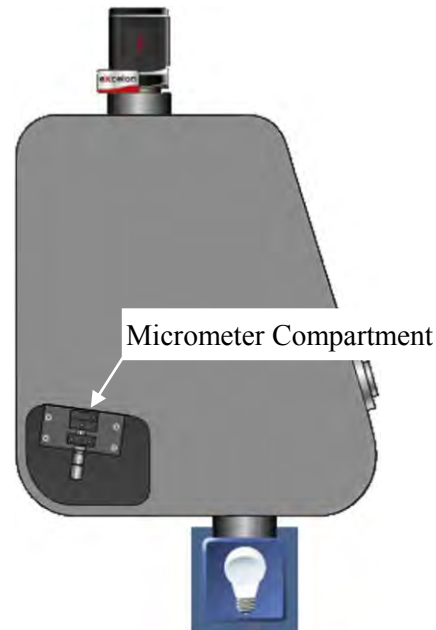
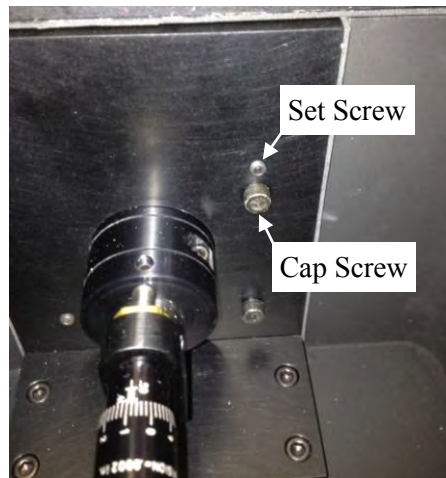

Figure 2-10. Micrometer Compartment Location
Figure 2-12. Height Adjustment Screws
1. Using a 9/64" hex wrench, unscrew the four screws that secure the Micrometer Compartment cover (see Figure 2-10).
If you have an optical fiber and fiber adapter that can precisely center the beam at the center of the IsoPlane focal plane, then that can be used as a guide in positioning the exit focal plane. If the IsoPlane is equipped with a standard 3 mm manual entrance slit or optional 3 mm motorized entrance slit, you can also install the supplied 4 mm high slit baffle and use the 4mm high image as a guide in positioning the exit focal plane. The adjustment is made by adjusting the pair of push-pull vertical alignment screws as shown in Figure 2-12.
1. Remove the Micrometer Compartment cover (Figure 2-10) to access the height adjustment screws (Figure 2-12).
1. CAUTION: ONLY ADJUST THE CAP AND SET SCREWS INDICATED IN Figure 2-12. ADJUSTMENTS TO OTHER SCREWS MAY RESULT IN SEVERE MISALIGNMENT OF THE INSTRUMENT.
1. CAUTION: ONLY ADJUST THE SET AND CAP SCREWS AS INDICATED IN Figure 2-12. ADJUSTMENTS TO OTHER SCREWS MAY RESULT IN SEVERE MISALIGNMENT OF THE INSTRUMENT.